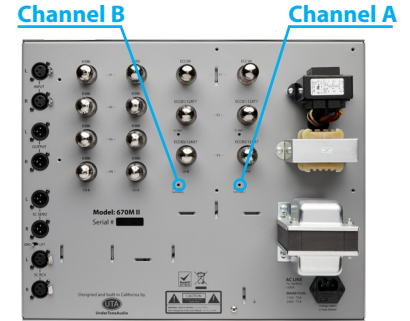

Figure 3: Threshold Symmetry
- a. Locate the two small access holes on the rear panel labeled 'Threshold Symmetry' positioned below the ECC83 tubes (Figure 3)
- c. Locate the two small access holes on the rear panel labeled 'Threshold Symmetry' positioned below the ECC83 tubes (Figure 3)